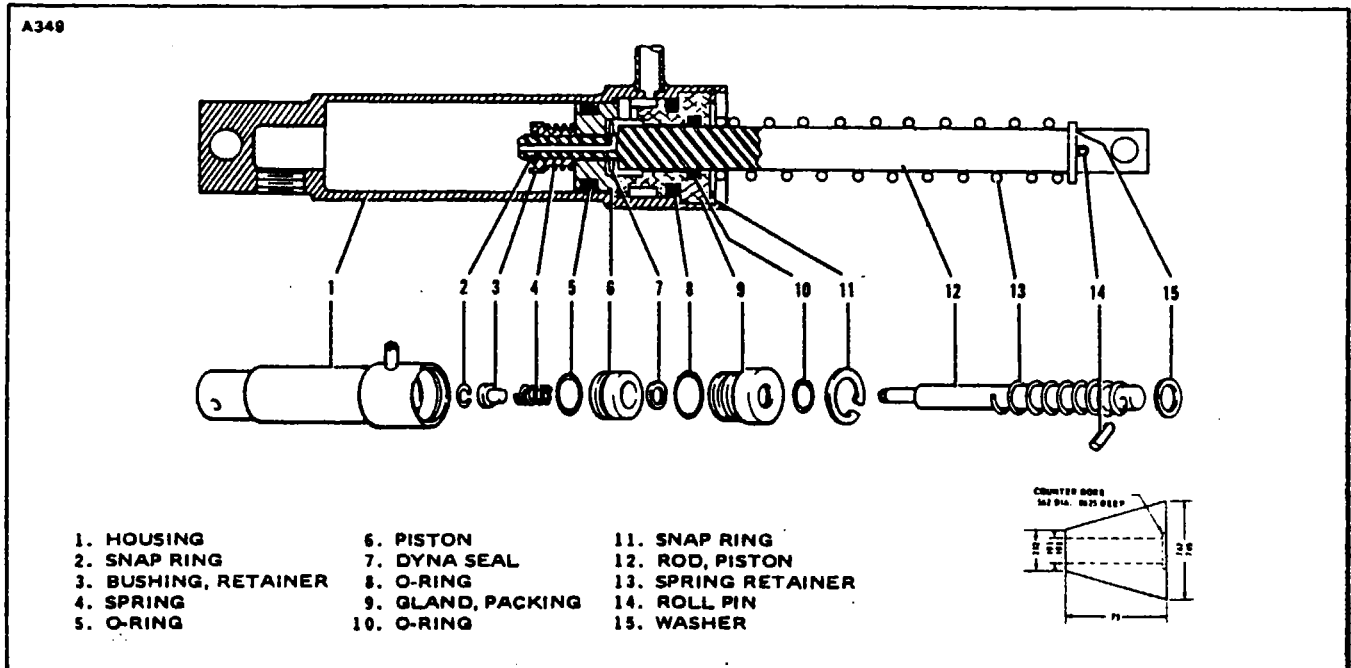

Figure 7-16. Brake Master Cylinder (Hand, Parking Brake)
7-56. DISASSEMBLY OF BRAKE MASTER CYLINDER. (Refer to Figure 7-16.)
7-58. ASSEMBLY OF BRAKE MASTER CYLINDER. (Refer to Figure 7-16.)
When installing teflon O-ring (5) on piston, it is suggested it be installed with the use of a cone placed against the piston. Dimensions for constructing a cone of plastic or metal are shown in Figure 7-16.
- c. To assemble piston rod assembly, install on rod (12), in order, roll pin (14), washer (15), spring (13), packing gland (9) with O-rings, seal (10), piston (6) with O-rings, spring (4) and bushing (3). Secure these components with snap ring (2).
- d. Insert piston rod assembly into cylinder (1) and secure packing gland with snap ring (11).